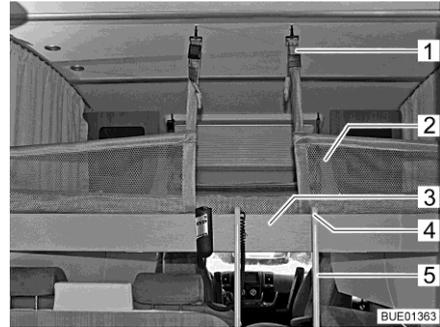

Fig. 142 Pull-down bed complete with applied safety net
- Safety net** If fitted, the safety net (Fig. 142,2) and the retaining belts are located beneath the mattress of the pull-down bed. Only use the safety net if persons are already in the pull-down bed.
- Attach the retaining belts (Fig. 142,1) to the hooks on the ceiling.
- Hook access ladder (Fig. 142,5) to the pull-down bed by attaching the two hooks (Fig. 142,4) in the holding bar (Fig. 142,3).